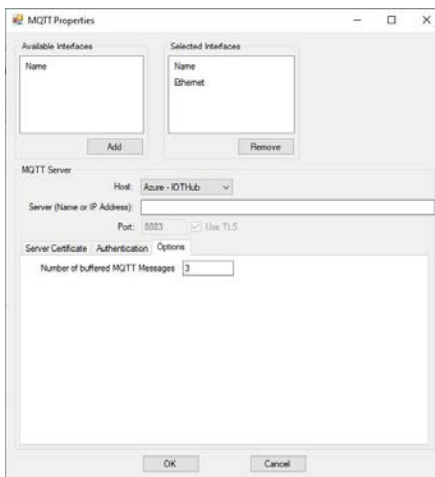

Figure 28-6C
d. Options Tab. Refer to Figure 28-6C.